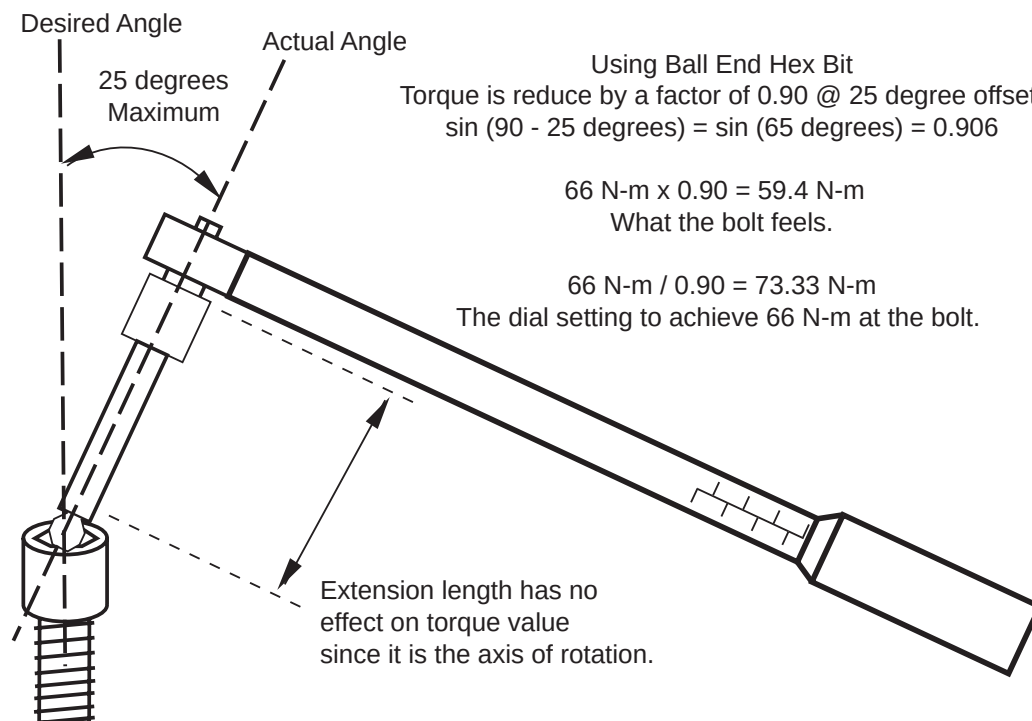

Figure A-3 Formula when not at 90 Degree to Axis of Rotation
- a.) Figure A-3 illustrates the effects not being perpendicular.
Note: The length of a standard square drive extension has no effect on torque since it is along the axis of rotation. See Figure A-3.